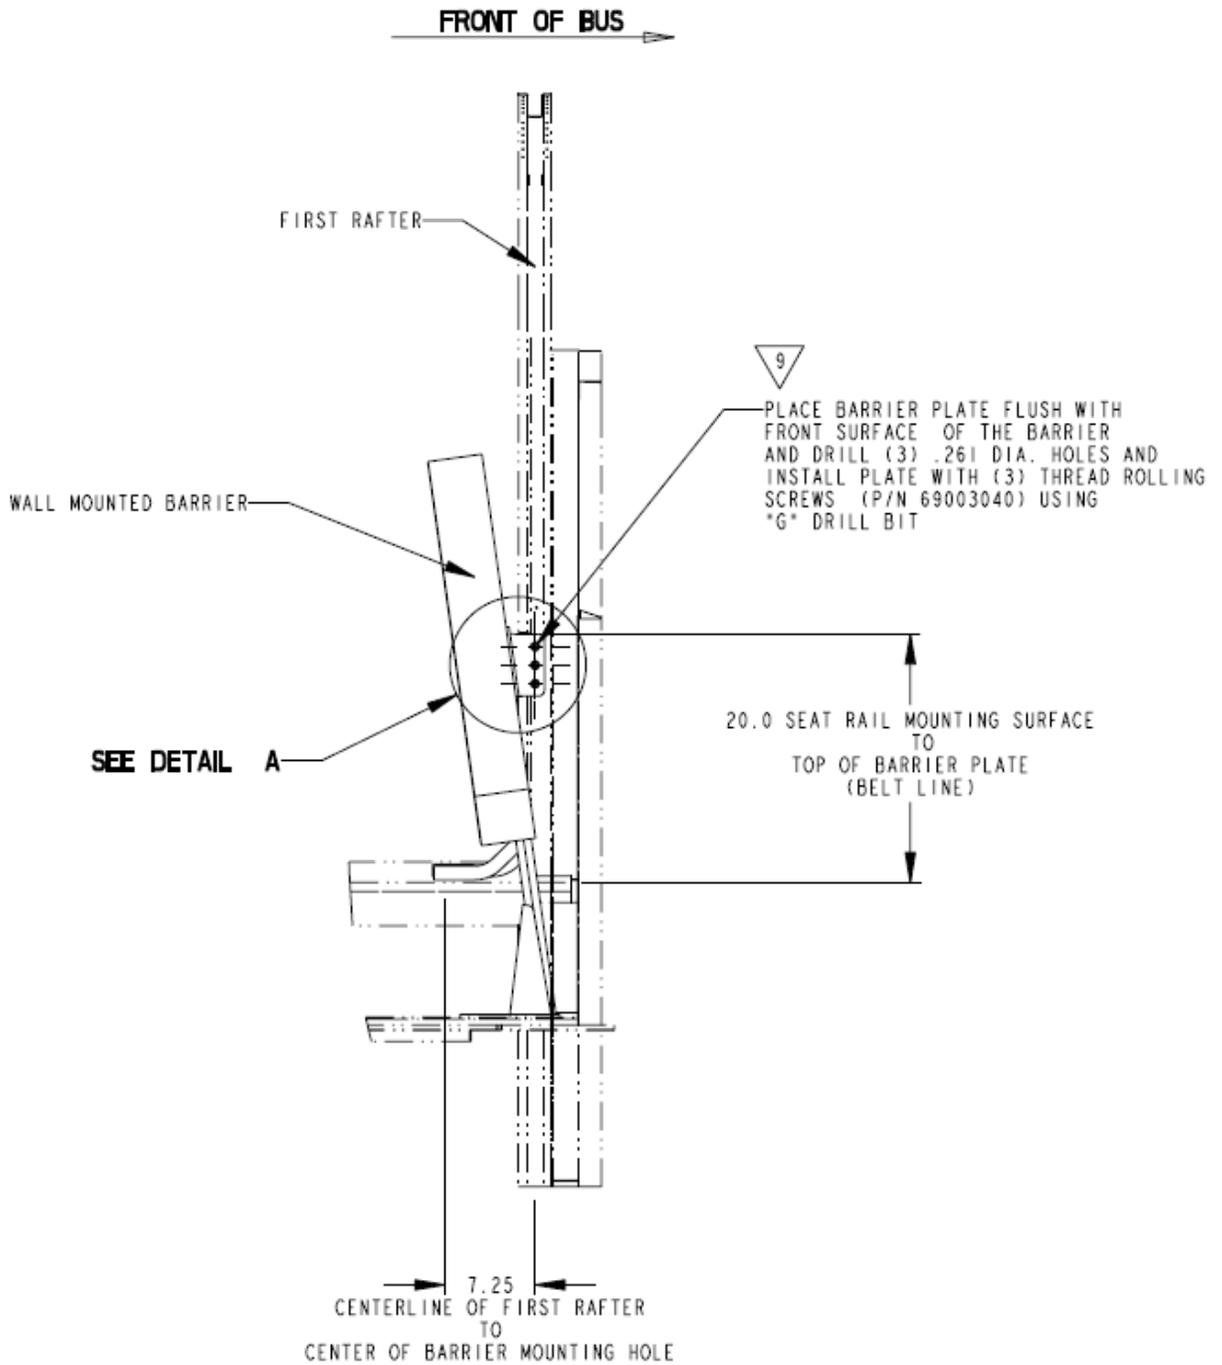

Figure 7
- 26) Install bracket (TBB 182325) in front of barrier as shown in **Figure 7** below. This will be installed by drilling three holes using a G drill bit, and then installing with three screws (TBB 69003140). This may require loosening the barrier at seat rail in order to get bracket into correct position.